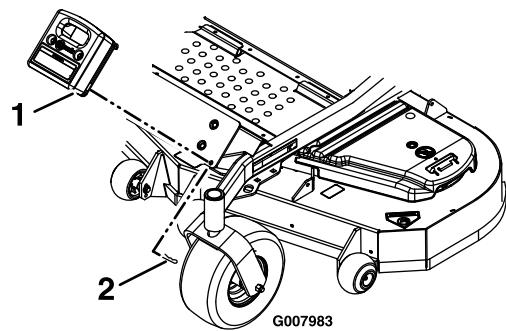

Figure 19
29. Install the removable weights. Hook the front toe board weight assembly over the top of the weight mounting plate and secure with two hairpins (Figure 19).